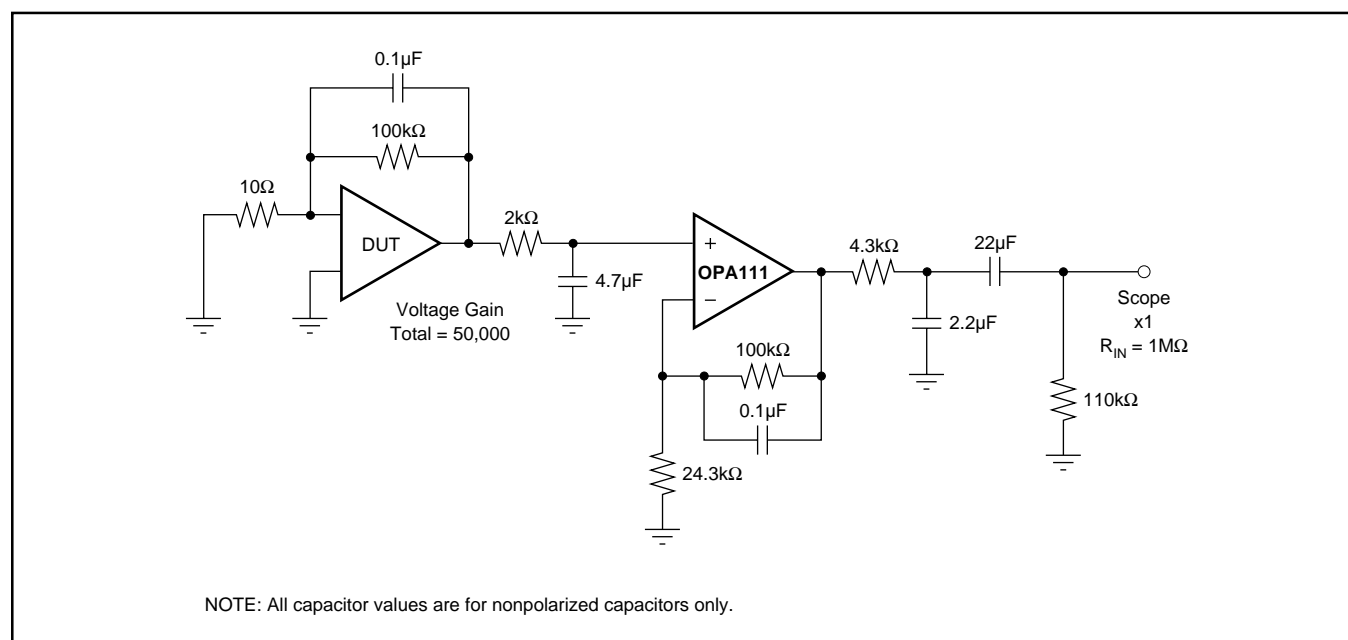

FIGURE 1. 0.1Hz to 10Hz Noise Test Circuit.
NOTES: (1) Measured with industry-standard noise test circuit (Figures 1 and 2). Due to errors introduced by this method, these current noise specifications should be used for comparison purposes only. (2) Offset voltage specification are measured with automatic test equipment after approximately 0.5 seconds from power turn-on. (3) Unnulled or nulled with  $8k\Omega$  to  $20k\Omega$  potentiometer. (4) Long-term voltage offset vs time trend line does not include warm-up drift. (5) Typical specification only on plastic package units. Slew rate varies on all units due to differing test methods. Minimum specification applies to open-loop test. (6) This parameter guaranteed by design.